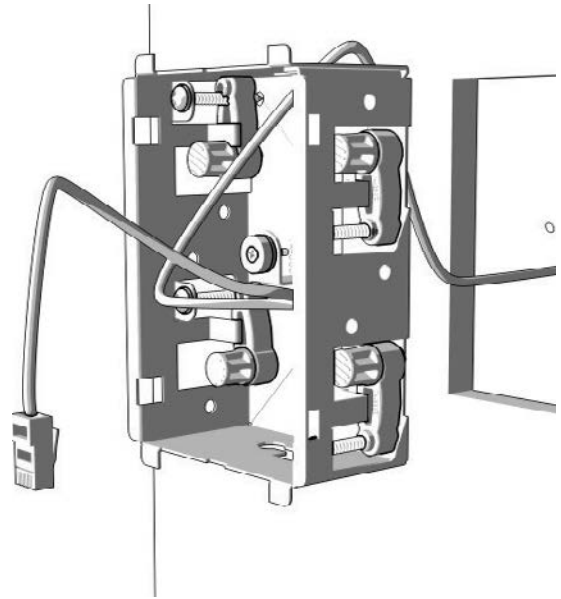

Figure 4: Mounting Cradle Installation
4. Prior to placing the mounting frame into the wall, pull a sufficient length of the Cat5 cable and its attached RJ-45 connector through the opening in the top of the mounting frame, as shown in **Figure 4**.